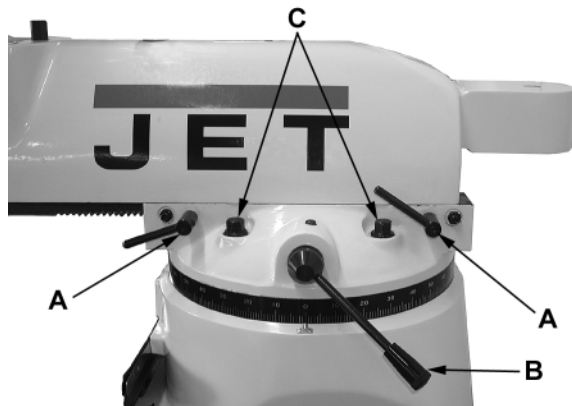

Figure 23
1. Loosen the two bolts (A, Figure 23) that lock the ram to its ways.
2. Turn the lever (B, Figure 23) to move the ram on its ways.
3. When the desired position is reached, lock the bolts (A, Figure 23) securely.
1. Loosen four turret lock bolts (C, Figure 23) that clamp the ram to the top of the base. 1/2 turn should be sufficient to allow the turret to move.
3. Tighten the four turret lock bolts (C, Figure 23).